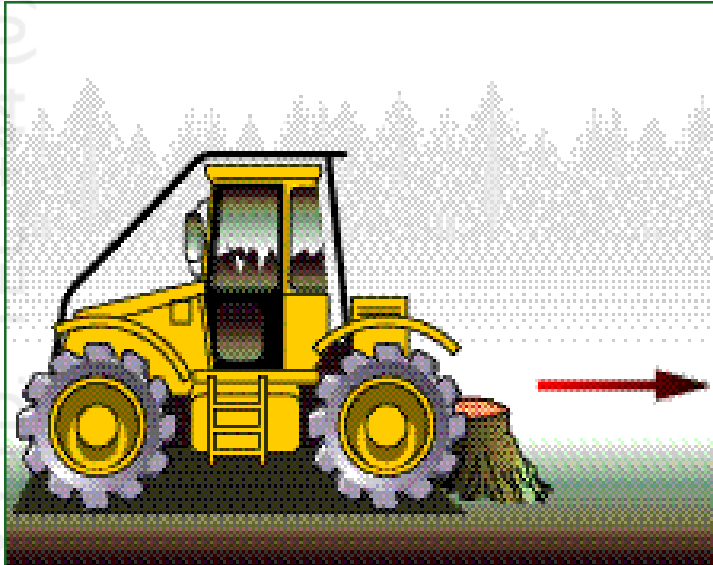

Figure 1 Stump used as anchor
- 15 Tree stumps or anchors used to secure the winch must be of adequate strength and reinforced where necessary (see Figure 1).